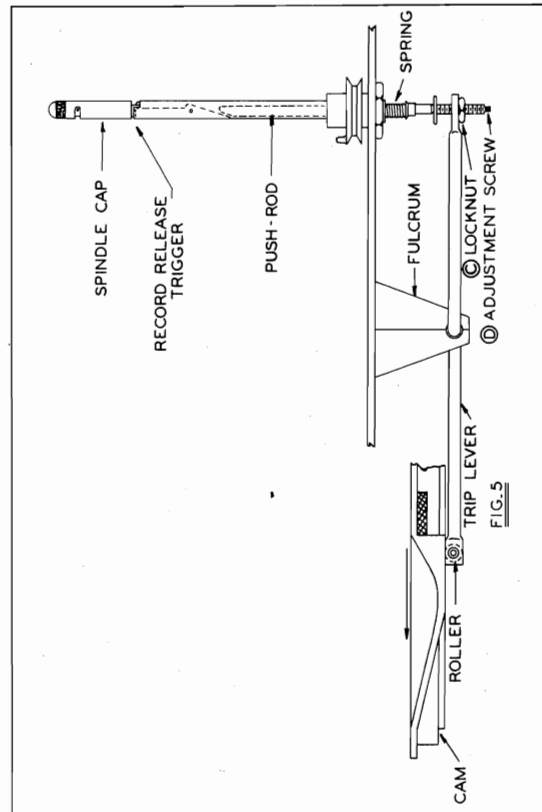

FIG. 5
(See Fig. 5).
5. If the record proves to be normal, and is not causing the failure, loosen lock nut (C) which locks adjustment screw (D), as shown in Figs. 5, 6, or 7.
6. With a slab-head wrench, turn screw (D) a fraction of a turn clockwise, and press the "Start-Reject" button again, checking to see if record is released.
7. If the record fails to drop, tighten screw (D) a trifle at a time, testing after each adjustment, until setting is reached, which releases record.
8. Tighten lock nut (C), after which a few more records should be changed, to make sure that this did not alter adjustment of screw (D).
- NOTE:** If the Changer stalls during the adjustment procedure, it may be an indication that screw (D) is too tight, in which case it should be turned back (counter-clockwise).